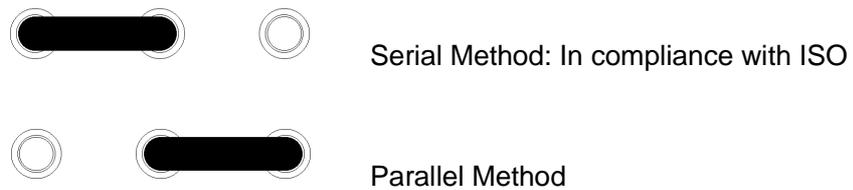

Figure 12 DC Injection Selection Procedure
- ⑥ DC Injection Method Selection Terminals
- Select the DC injection method using the accessory DC Injection Selection Plug. Refer to Figure 2 for the difference in Serial and Parallel. The connection layouts are shown in Figure 12.
Select either Serial or Parallel Injection. Refer to Figure 2 for the difference of waveforms, and refer to Figure 12 for connection.